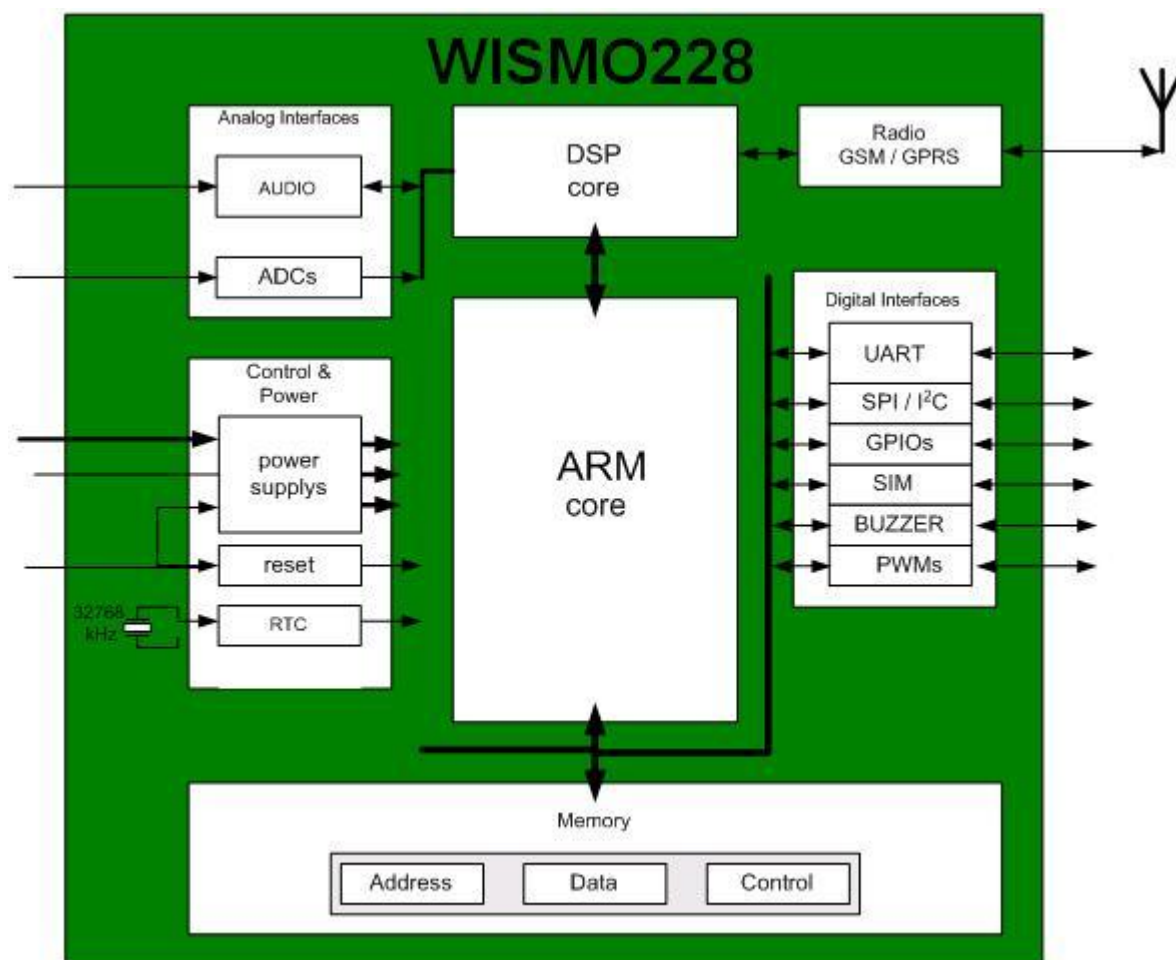

Figure 1. Functional Architecture
- A GSM/GPRS class 2 terminal emits 577 $\mu$ s radio bursts every 4.615ms. (See Figure 1.)